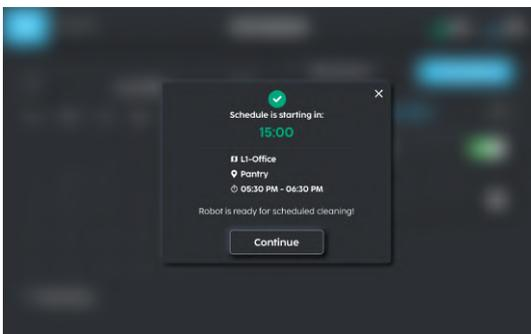

FIGURE 6-29
- If the machine is ready to clean, it will show a tick and the location of the schedule (**Fig. 6-29**).